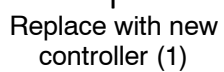

FIG. 10 - 7400 Controller Location LP / Gas / Diesel
4. Locate the controller mounted in front of the control panel, on the right side of the machine. (Fig. 10)
7. Set up the controller (1). Refer to the **SET UP NEW DIGITAL CONTROLLER** instructions for information to setup the controller.
8. Connect the main wire harness to the new controller (1). Do not secure the controller to the machine. The controller is secured to the machine after it is tested.
12. Install the controller into the machine. (Fig. 10)